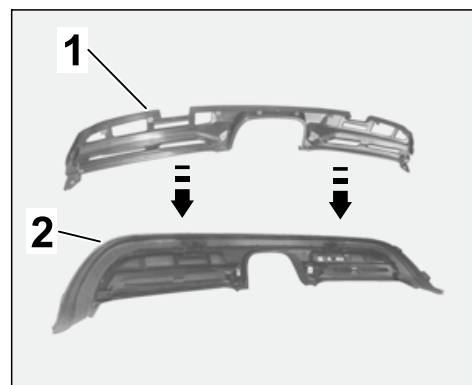

Figure 37
- 6.7 Clip lower holder ⇒ *Figure 37* -1- and rear
skirt ⇒ *Figure 37* -2- together.